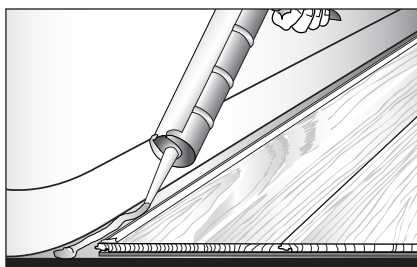

Fig. 25
6. All perimeter expansion zones must be completely filled with 100% silicone caulk following the manufacturer's recommendations. When applying caulk, it is helpful to first apply a strip of masking tape parallel to and approximately 1/32" (.79 mm) from the edge of the laminate (Fig. 25). Then fill the expansion zone with caulk, remove the excess with a plastic scraper or putty knife, and remove the tape.